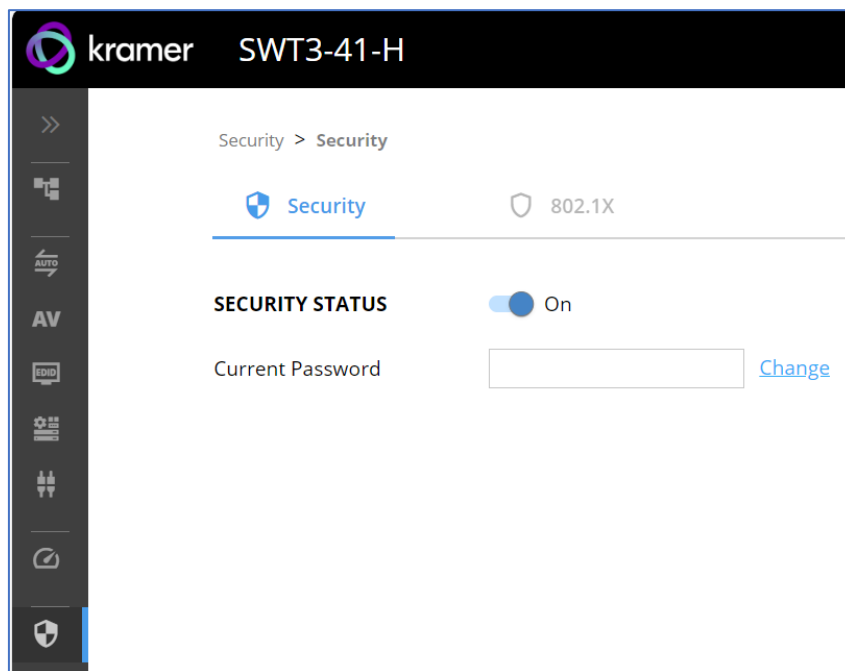

Figure 37: Security – Security Tab
2. Select the Security tab. The Security settings appears (Figure 37).
1. Go to the Security > Security (Figure 37).
1. Go to the Security page (Figure 37).